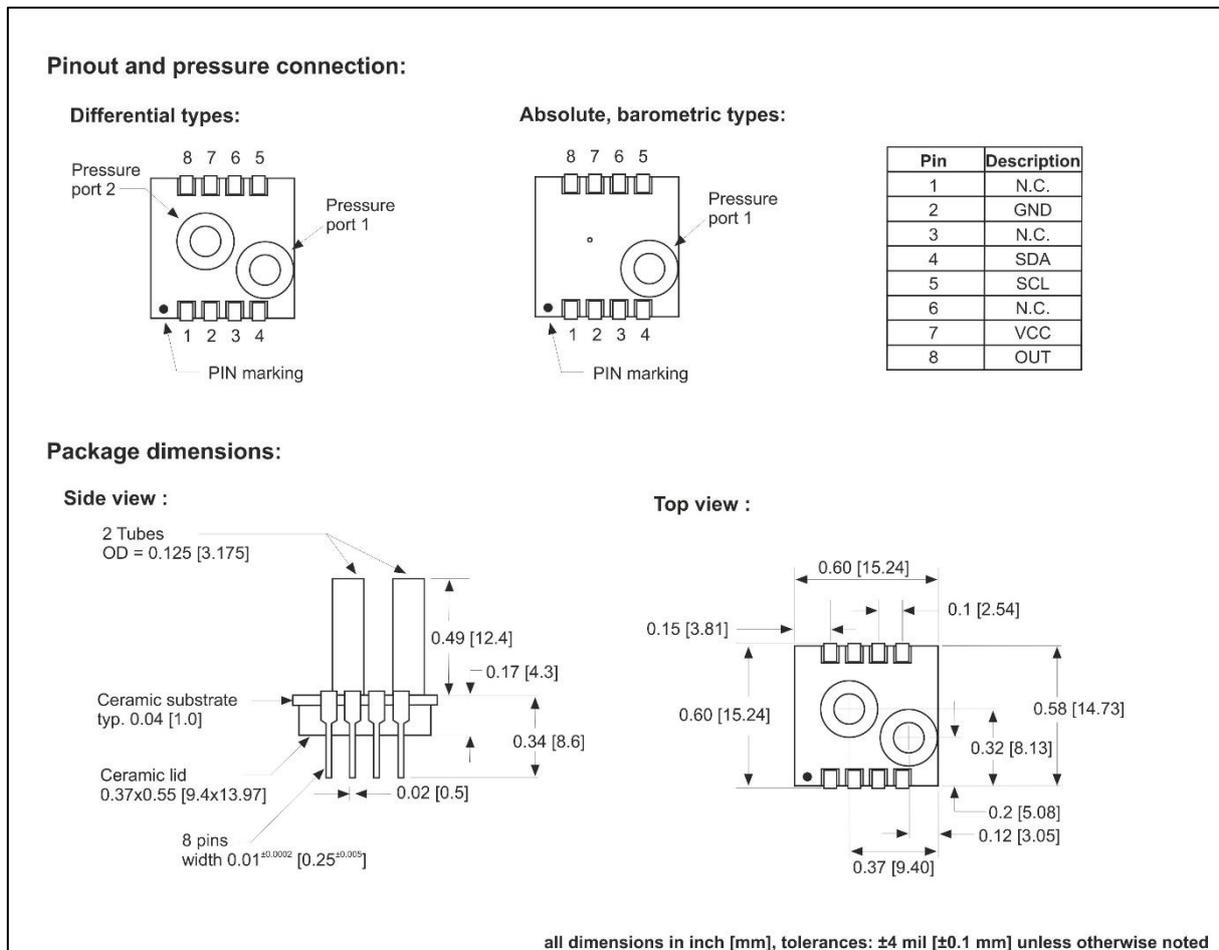

Figure 5: Dimensions and pinout for AMS 5812's standard package with vertical metal tubes
- 5) Total accuracy is defined as the maximum deviation of the measurement value from the ideal characteristic curve at room temperature (RT) in %FSO including the adjustment error (offset and span), nonlinearity, pressure hysteresis and repeatability. Nonlinearity is the measured deviation from the best fit straight line (BFSL) across the entire pressure range. Pressure hysteresis is the maximum deviation of the output value at any pressure within the specified range when this pressure is cycled to and from the minimum or maximum rated pressure. Repeatability is the maximum deviation of the output value at any pressure within the specified range after 10 pressure cycles.
- 8) Media compatibility of pressure port 1 (for a description of port 1, see *Figure 5* and *Figure 6*): clean, dry gases, non-corrosive to silicon, RTV silicone rubber, gold, nickel-plated steel (alkaline or acidic liquids can destroy the sensor).
- 9) Media compatibility of pressure port 2 (for a description of port 2, see *Figure 5* and *Figure 6*): fluids and gases non-corrosive to silicon, Pyrex, RTV silicone rubber, nickel-plated steel.
wherein p₁ = pressure at port 1 and p₂ = pressure at port 2, for port declaration see *Figure 5* and *Figure 6*. The media compatibility of pressure port 1 and port 2 can be found in "Specification notes", 8) and 9).
The pinout and dimensions of AMS 5812's dual-in-line package are shown in *Figure 5* for sensor types with vertical metal tubes (for connection with pressure hoses) and in *Figure 6* for sensor types for manifold assembly (-N option without tubes).
Notes on “Dimensions and Pinout” (Figure 5 and Figure 6):